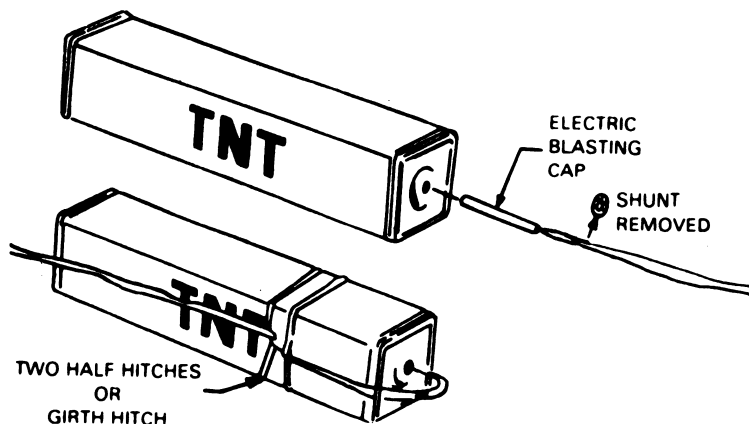

Figure 2
2. To prime a demolition block with a threaded cap well and no priming adapter available (fig. 2).